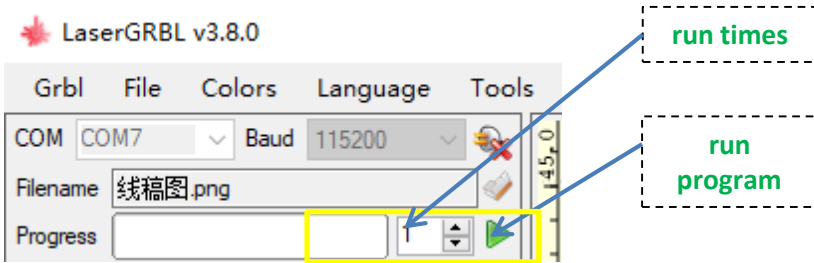

Figure 11.1
11.1 Start: Click the triangle green button of "Run Program" in GRBL software (figure 11.1). The G code produced by GRBL will be continuously transmitted to the control board of the engraving machine. (Engraving process should keep connected)